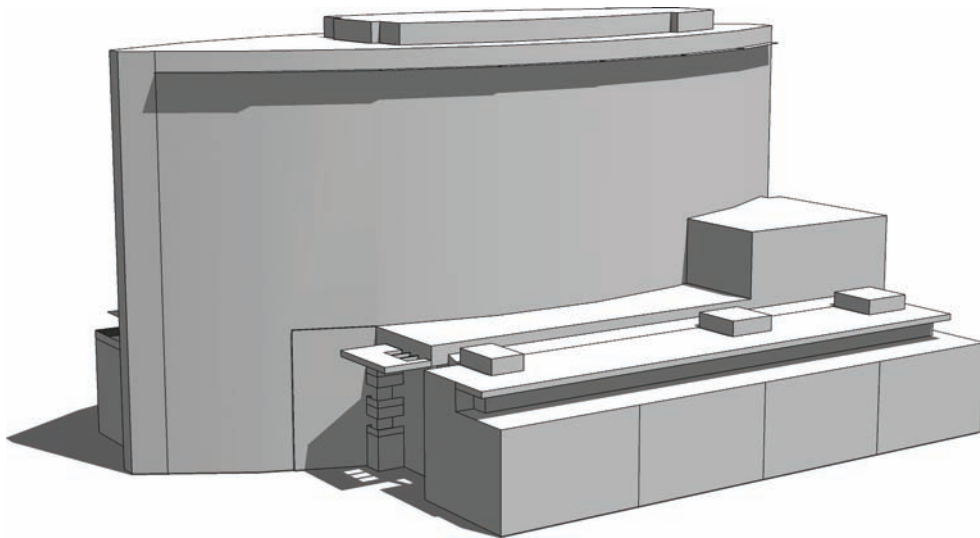

Fig. 15-1: The base massing model of the Webb Building.
1. The building mass for any given structure must first be completed. The final volume should be a single group or component (Fig. 15-1). The downloaded Webb Building model is an example of a completed massing.
Time It takes time to Drape. The more edges you have, the longer it will take the Drape command to run. The massing draped in Fig. 15-1 through 15-8 took 10 minutes to complete.